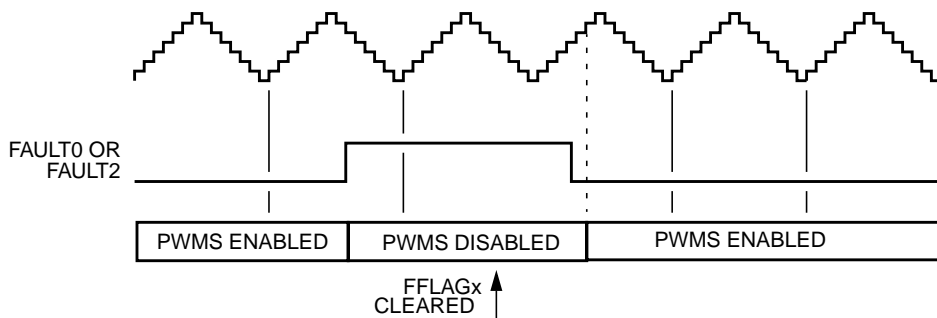
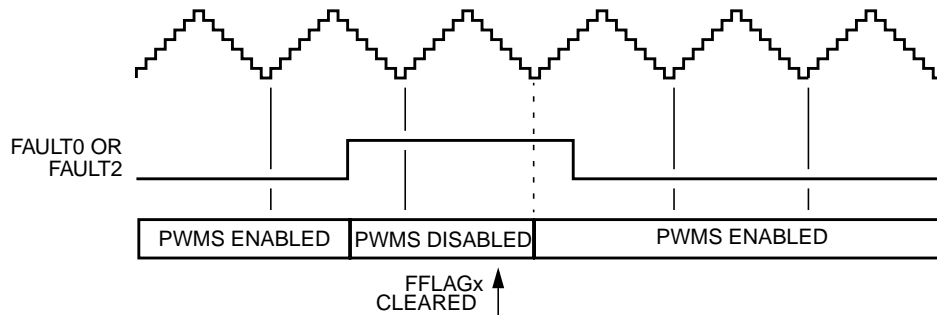

Figure 11-77. Manual Fault Clearing (Faults 0 & 2) — QSMP = 00
Figure 11-78. Manual Fault Clearing (Faults 0 & 2) - QSMP=01, 10, or 11
- PWM pins disabled by the FAULT0 pin or the FAULT2 pin are enabled by clearing the corresponding FFLAGx flag. The time at which the PWM pins are enabled depends on the corresponding QSMPx bit setting. If QSMPx = 00, the PWM pins are enabled on the next IP bus cycle when the logic level detected by the filter at the fault pin is logic zero. If QSMPx = 01,10 or 11, the PWMs are enabled when the next PWM half cycle begins regardless of the state of the logic level detected by the filter at the fault. See Figure 11-77 and Figure 11-78.